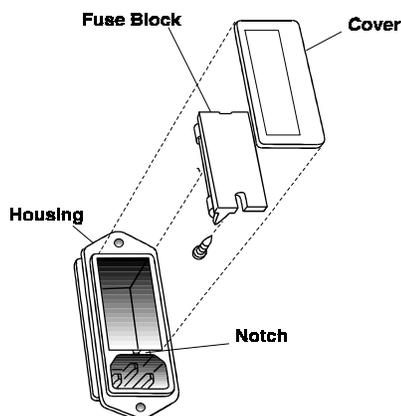
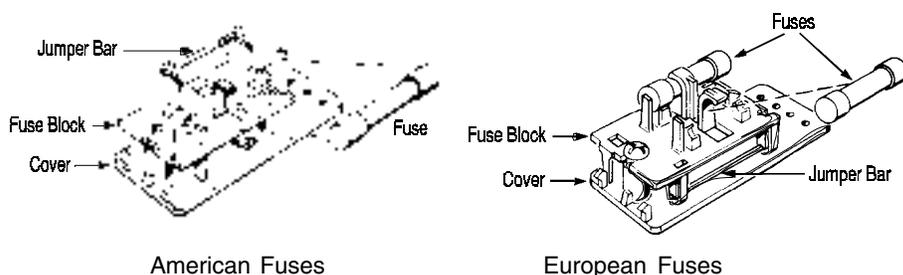

Figure 5-1: Removing Fuse Block from Housing
Figure 5-2: Installing Fuses
1. Place small screwdriver in notch, and pry cover off, as shown in Figure 5-1.
3. Replace fuse as shown in Figure 5-2.
4. Reassemble Housing as shown in Figure 5-1.
All internal components are accessed by unbolting and pulling open the rack assembly, removing the front cover, as described earlier. The major internal component locations are shown in Figure 5-3, the cell block is illustrated in Figures 5-2/5-3, and the fuse receptacle is shown in Figure 5-1.